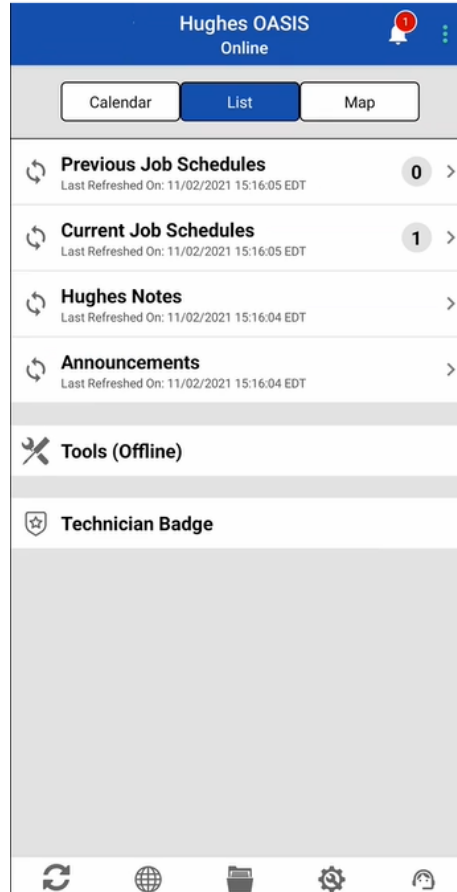

Figure 4: OASIS homepage
3. The OASIS home page appears (Figure 4 on page 7).
The OASIS homepage (Figure 4) contains menus for previous jobs, current jobs, current Hughes notes, and announcements. Tap a menu to expand it.